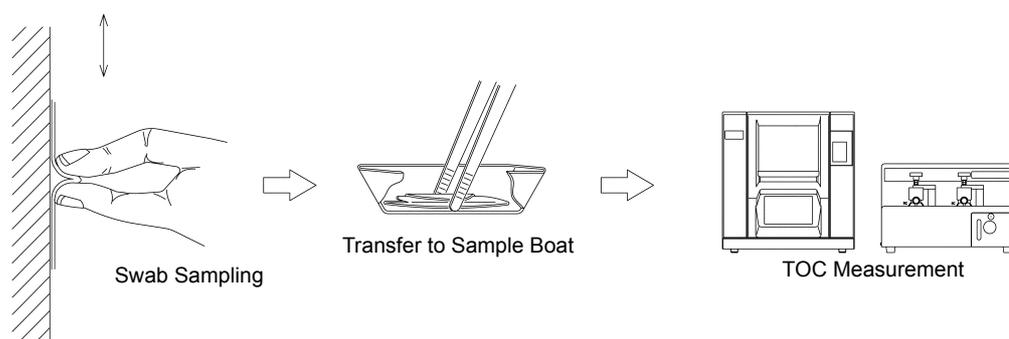

Figure 3.2 • Cleaning Validation Procedure
2. Use two pieces of the pretreated quartz-glass filter paper, one on top of the other. Use the outside paper to hold the inside paper. (See “Figure 3.2 • Cleaning Validation Procedure”)